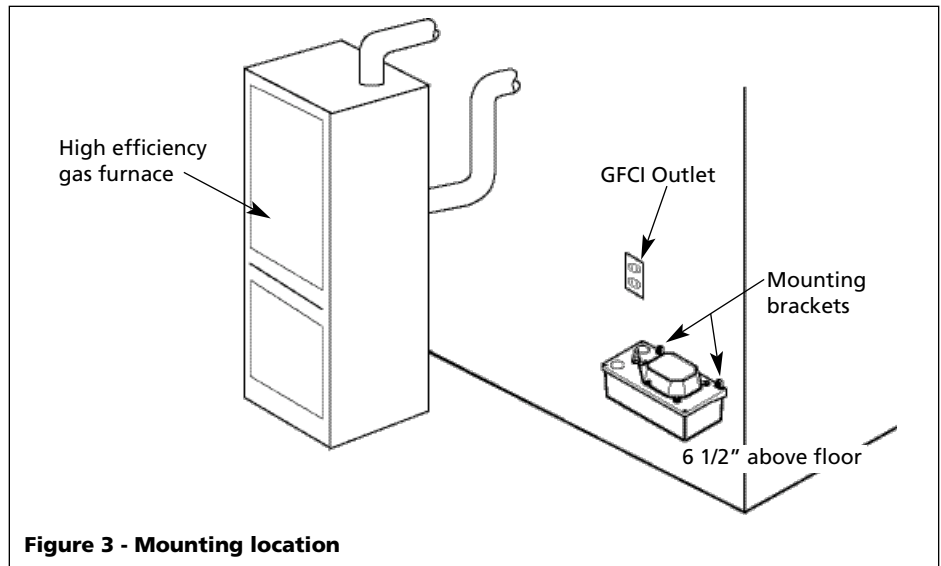

Figure 3 - Mounting location
- B. The pump can be installed to the wall or side of the appliance using the two mounting brackets. Refer to Figure 3.